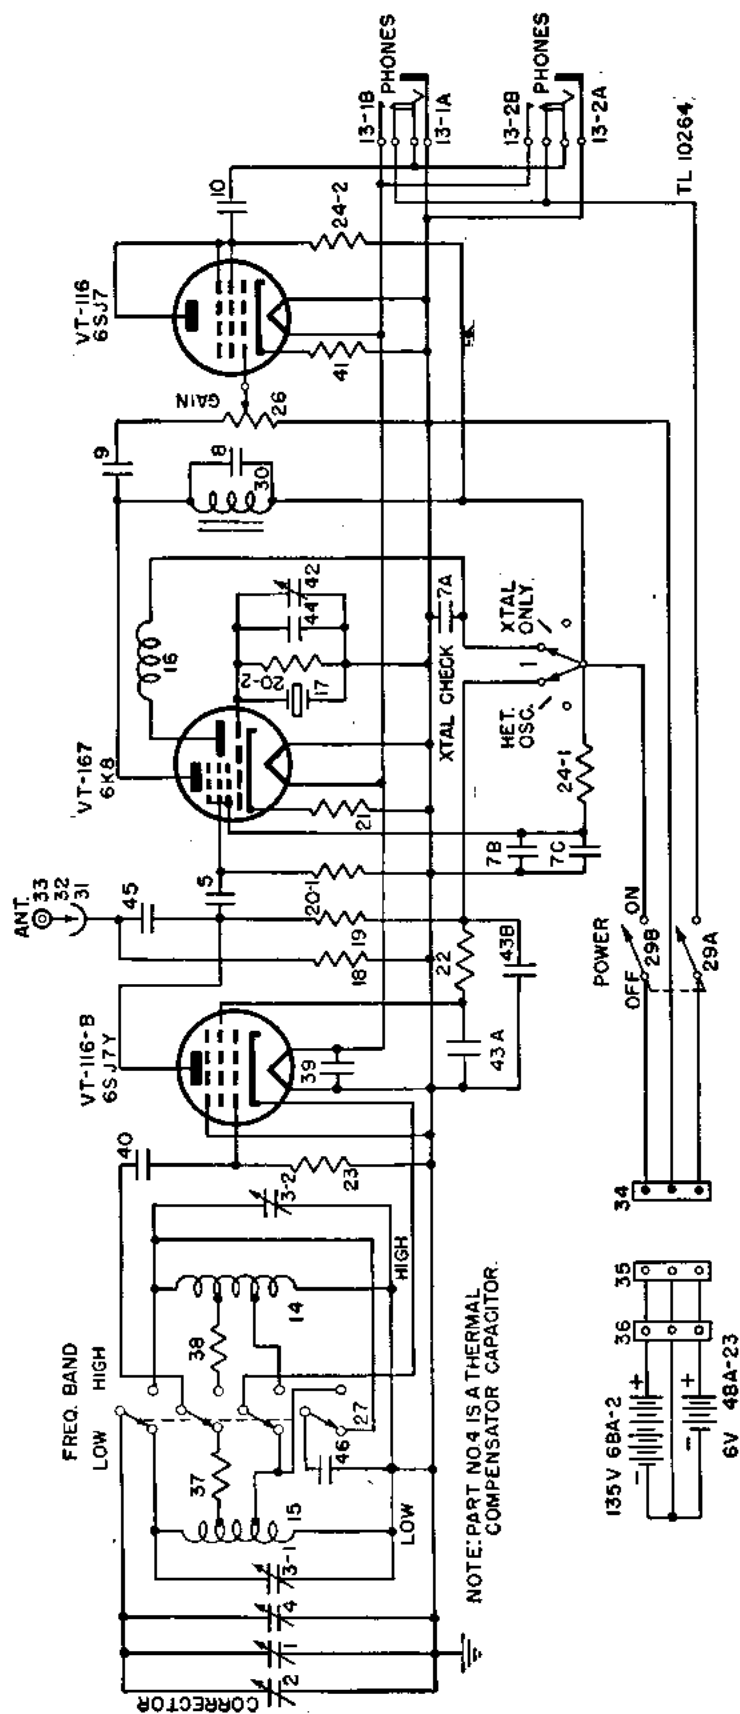

Figure 61. Frequency Meter BC-221-M, schematic diagram.
e. **OSCILLATOR FUNCTION.** (1) The variable frequency oscillator is in operation whenever the POWER switch 29 is in the ON position, the operation switch 28 is in either the HET. OSC. or XTAL. CHECK position, and a headset is plugged into a PHONES jack. (See figs. 61, 62, and 63.)
(2) At the XTAL. CHECK position of the operation switch 28, the output of oscillator Tube VT-116-B (6SJ7Y) is applied to the No. 3 grid of the hexode section of Tube VT-167 (6K8) where it is mixed with the output frequency of the crystal circuit. The result is a frequency equal to the difference of the two, and is used to adjust the frequency of the oscillator by means of the CORRECTOR control.
(3) At the HET. OSC. position of the operation switch 28, the variable frequency oscillator is in operation while the crystal oscillator is not. If the antenna is in position, the frequency meter may be used to receive or send any frequency in its range; that is, it may be used as a radio receiver or transmitter.
176. Power Supply Circuit (figs. 61, 62, and 63)